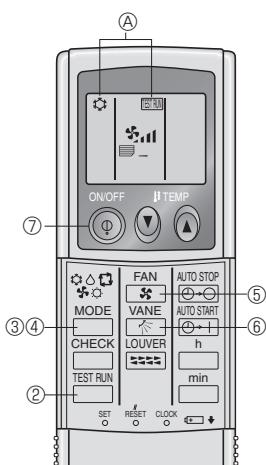

Fig. 7-5
7.2.2. Using wireless remote controller (Fig. 7-5)
- ① Turn on the power to the unit at least 12 hours before the test run.
- ② Press the TEST RUN button twice continuously.